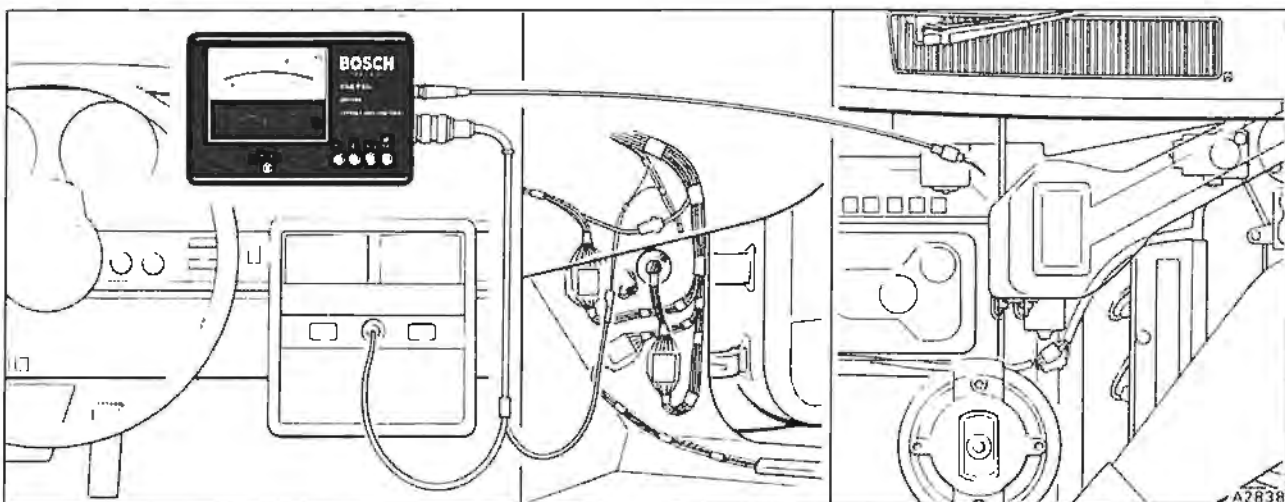

Fig. B2-41 'Closed loop' system tester
2. Fit the other ends of the cables to the vehicle as follows (see fig. B2-41).